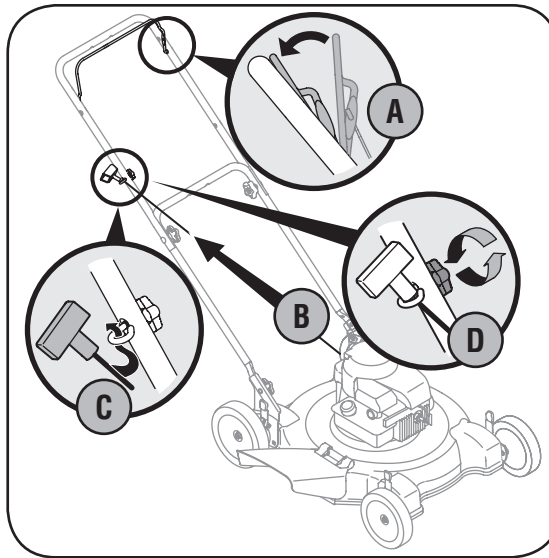

Figure 3-4
- b. Slowly pull starter rope out of the engine. See Figure 3-4.